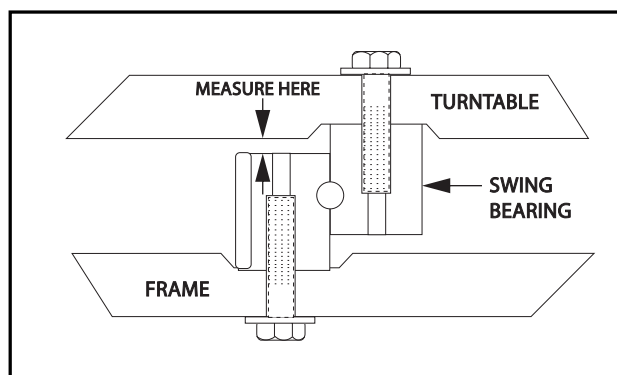
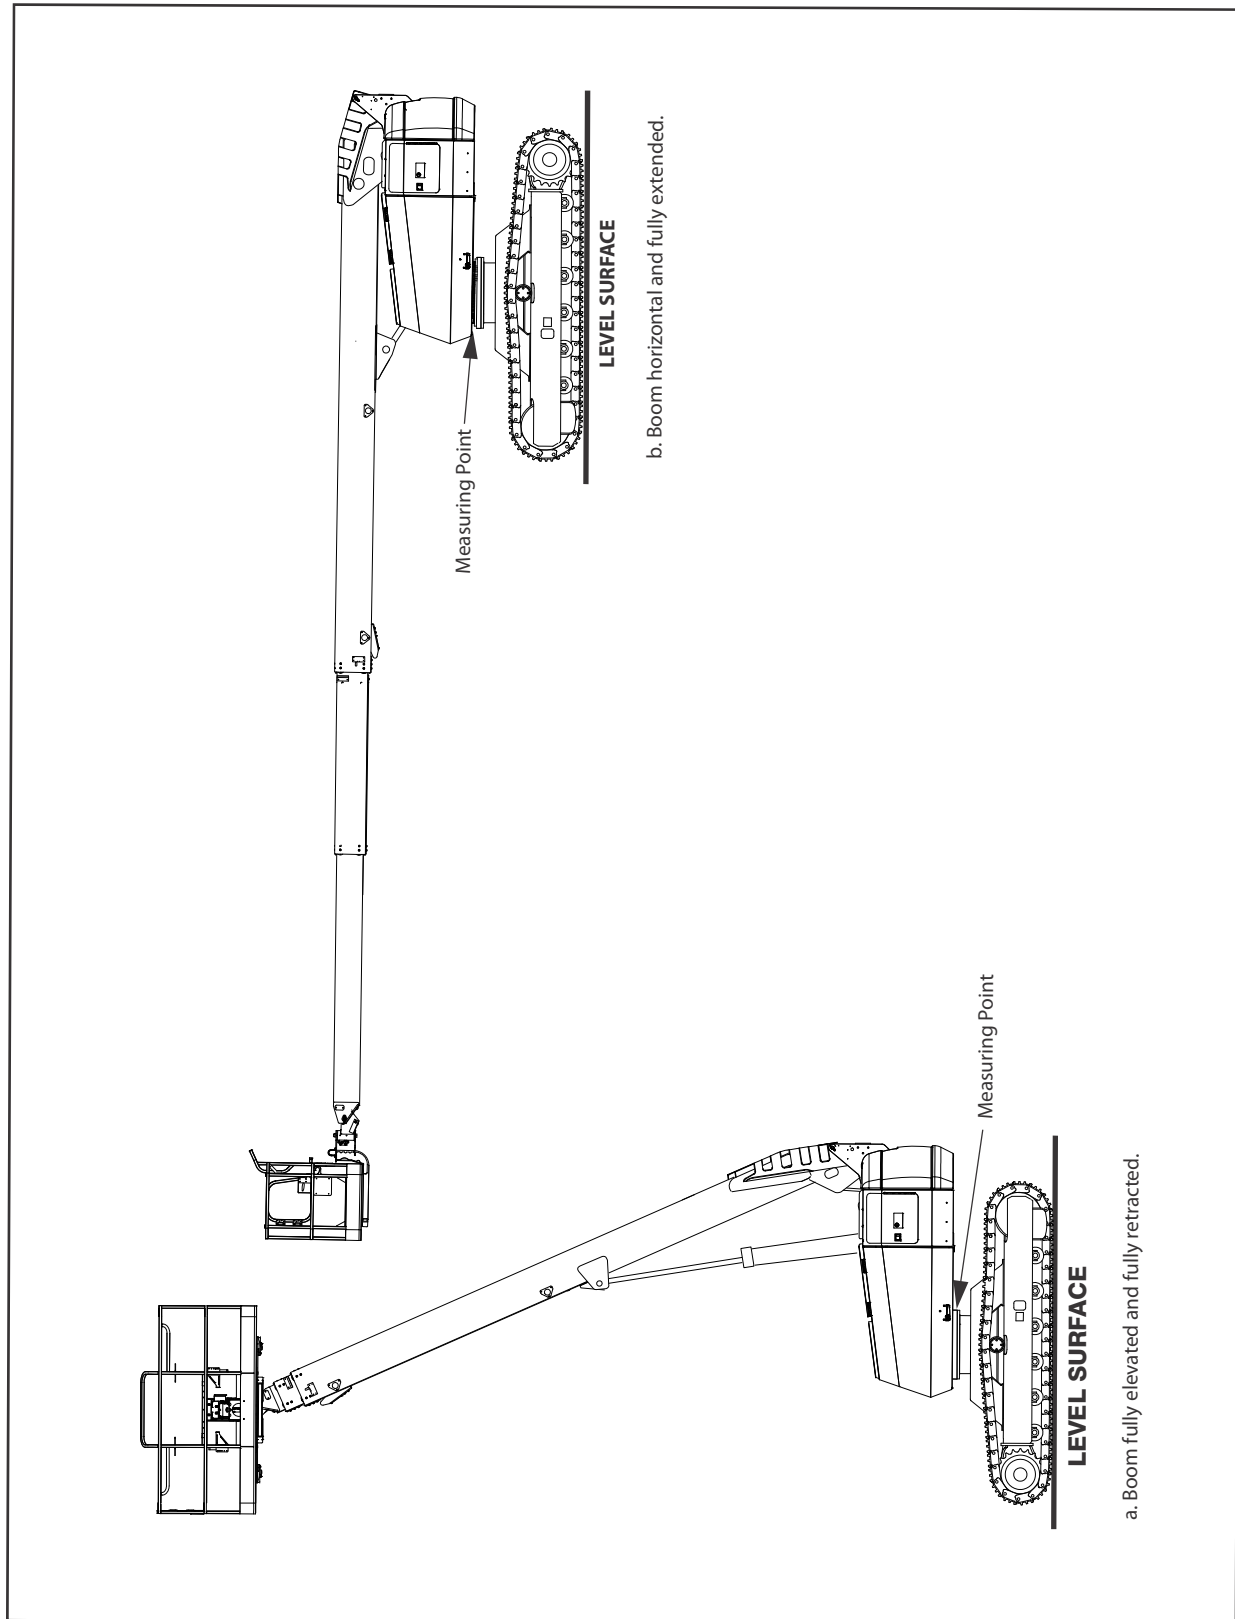

Figure 3-32. Swing Bearing Tolerance Measuring Point
Figure 3-33. Swing Bearing Tolerance Measurement Location & Boom Placement
1. From underside of machine, at rear center, with boom fully elevated and fully retracted, as shown in Figure 3-33., Swing Bearing Tolerance Measurement Location & Boom Placement A, using a magnetic base dial indicator, measure and record distance between swing bearing and turntable as shown in Figure 3-32., Swing Bearing Tolerance Measuring Point.
2. At the same point, with boom horizontal and fully extended, and tower boom fully elevated as shown in - Swing Bearing Tolerance Boom Placement B, using a magnetic base dial indicator, measure and record distance between swing bearing and turntable as shown in Figure 3-32., Swing Bearing Tolerance Measuring Point.